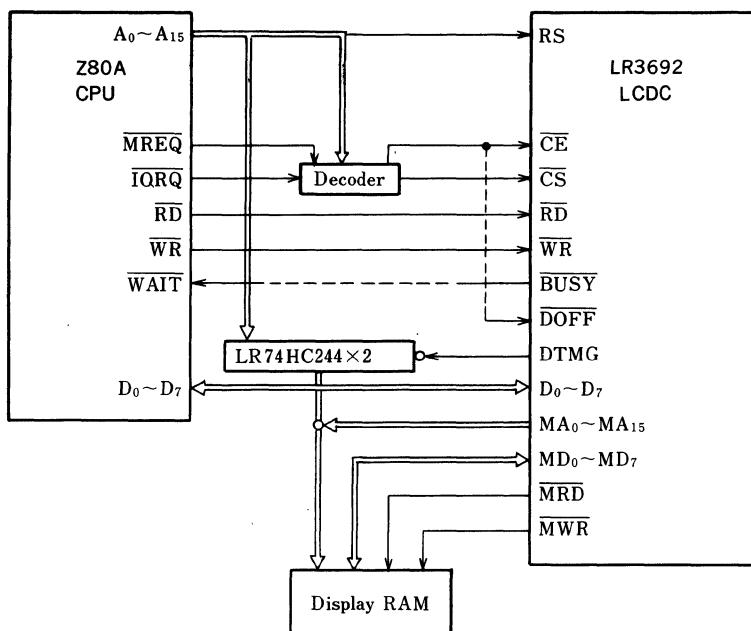

Fig. 2 Interface with CPU (Direct mode)
② Direct mode A sample system configuration for Direct mode access is shown in Fig. 2. The Direct mode is selected if the value of the command register is anything but 0C_H. If BUSY is high and CE is low, the RD, WR and D₀-D₇ pins are linked to the MRD, MWR, and MD₀-MD₇ lines, respectively. At this time the DTMG is set at low and the MA₀-MA₁₅ pins are set to high impedance, to transfer the address specified of the CPU direct-